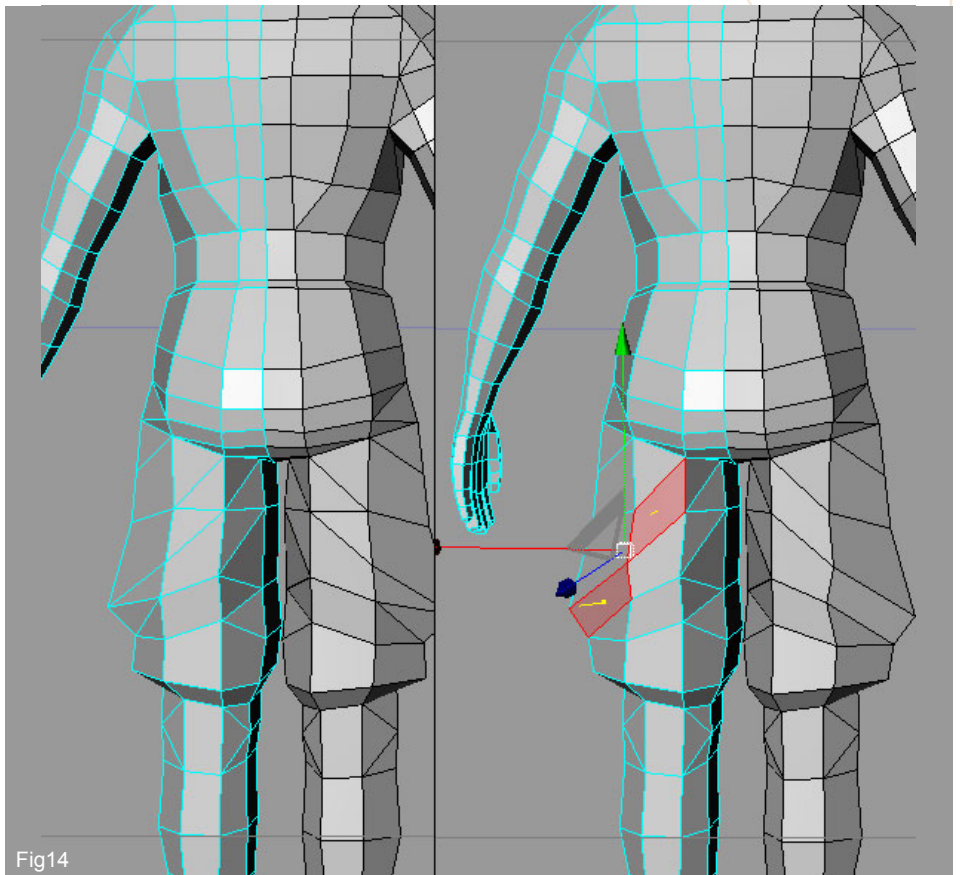

Fig14
14. The next stage involves making further cuts in along the lines shown in red in Fig14 (left) at the back of the trousers. This is to provide the correct creasing in the right areas and once done you can create quads like shown on the right of figure.